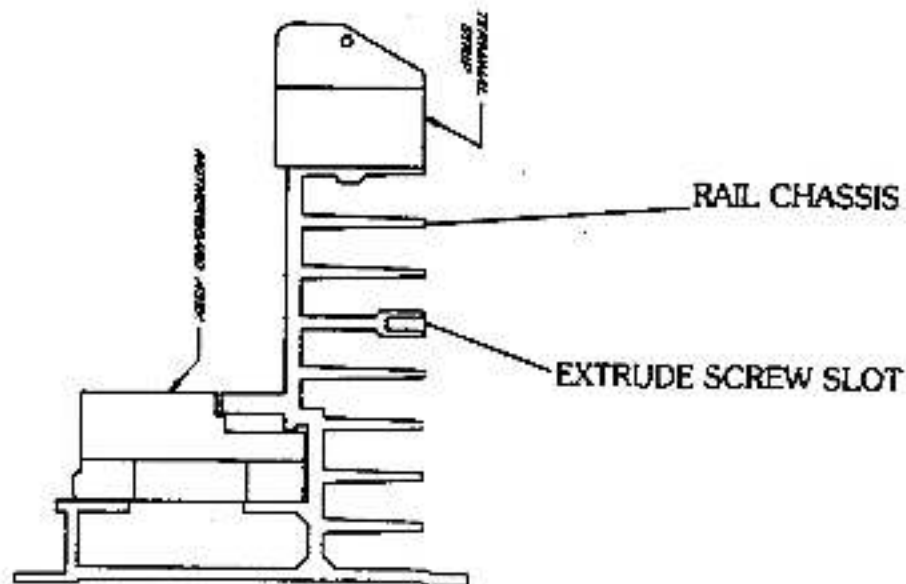
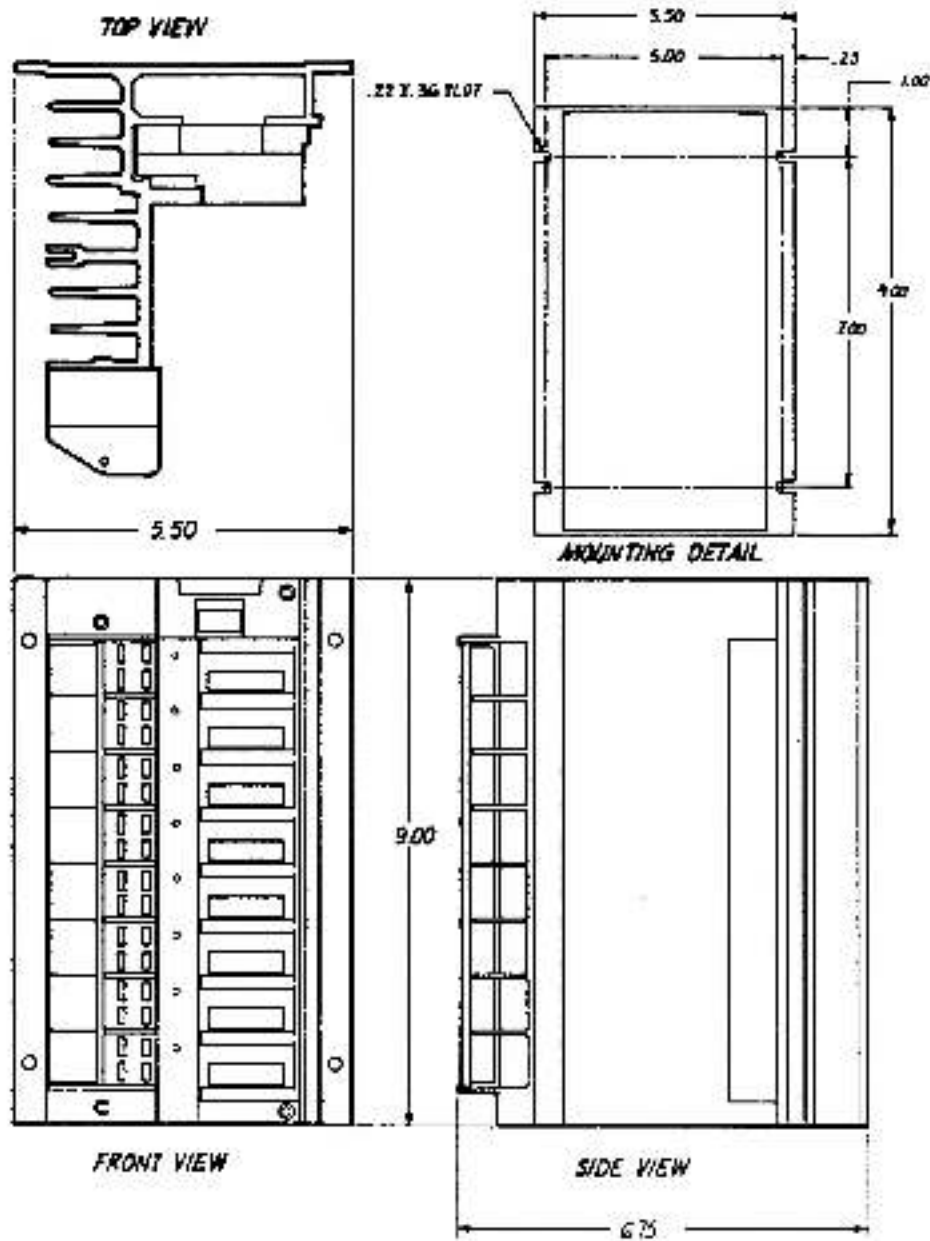

Figure 8
Figure 12
The Rail chassis is an aluminum fixture which measures 9" high \times 5 1/2" wide \times 7 1/2" deep. The terminal strip and I/O Motherboard mount on the Rail chassis (Refer to Fig. 8). The Rail chassis also serves as a heat sink for the I/O modules. Each Rail chassis has an extruded screw slot in one of the fins. This screw slot can be used for attaching a wire channel or a lashing bar as needed by the User. The screw thread is a 10-32 and the depth is 3/8 of an inch. There are four (4) holes in the Rail flange for mounting. (Refer to Figure 12 for hole pattern). The rail must be mounted in a vertical orientation to provide proper heat dissipation.